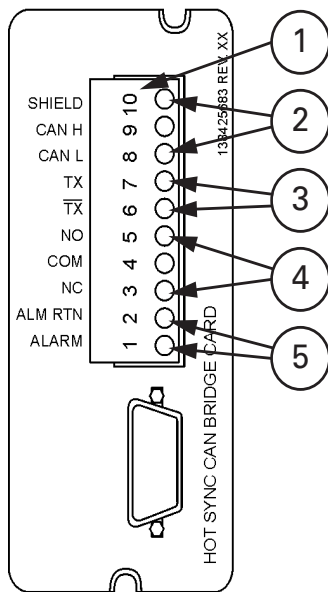
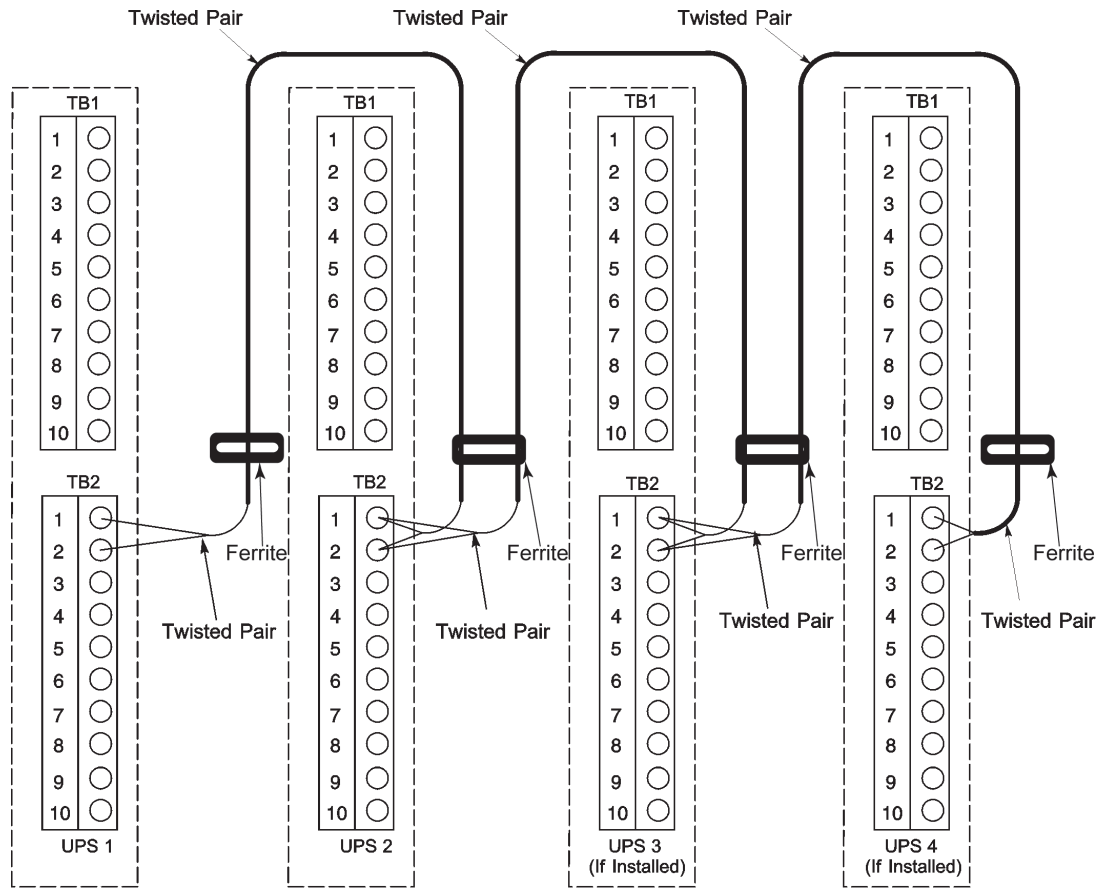
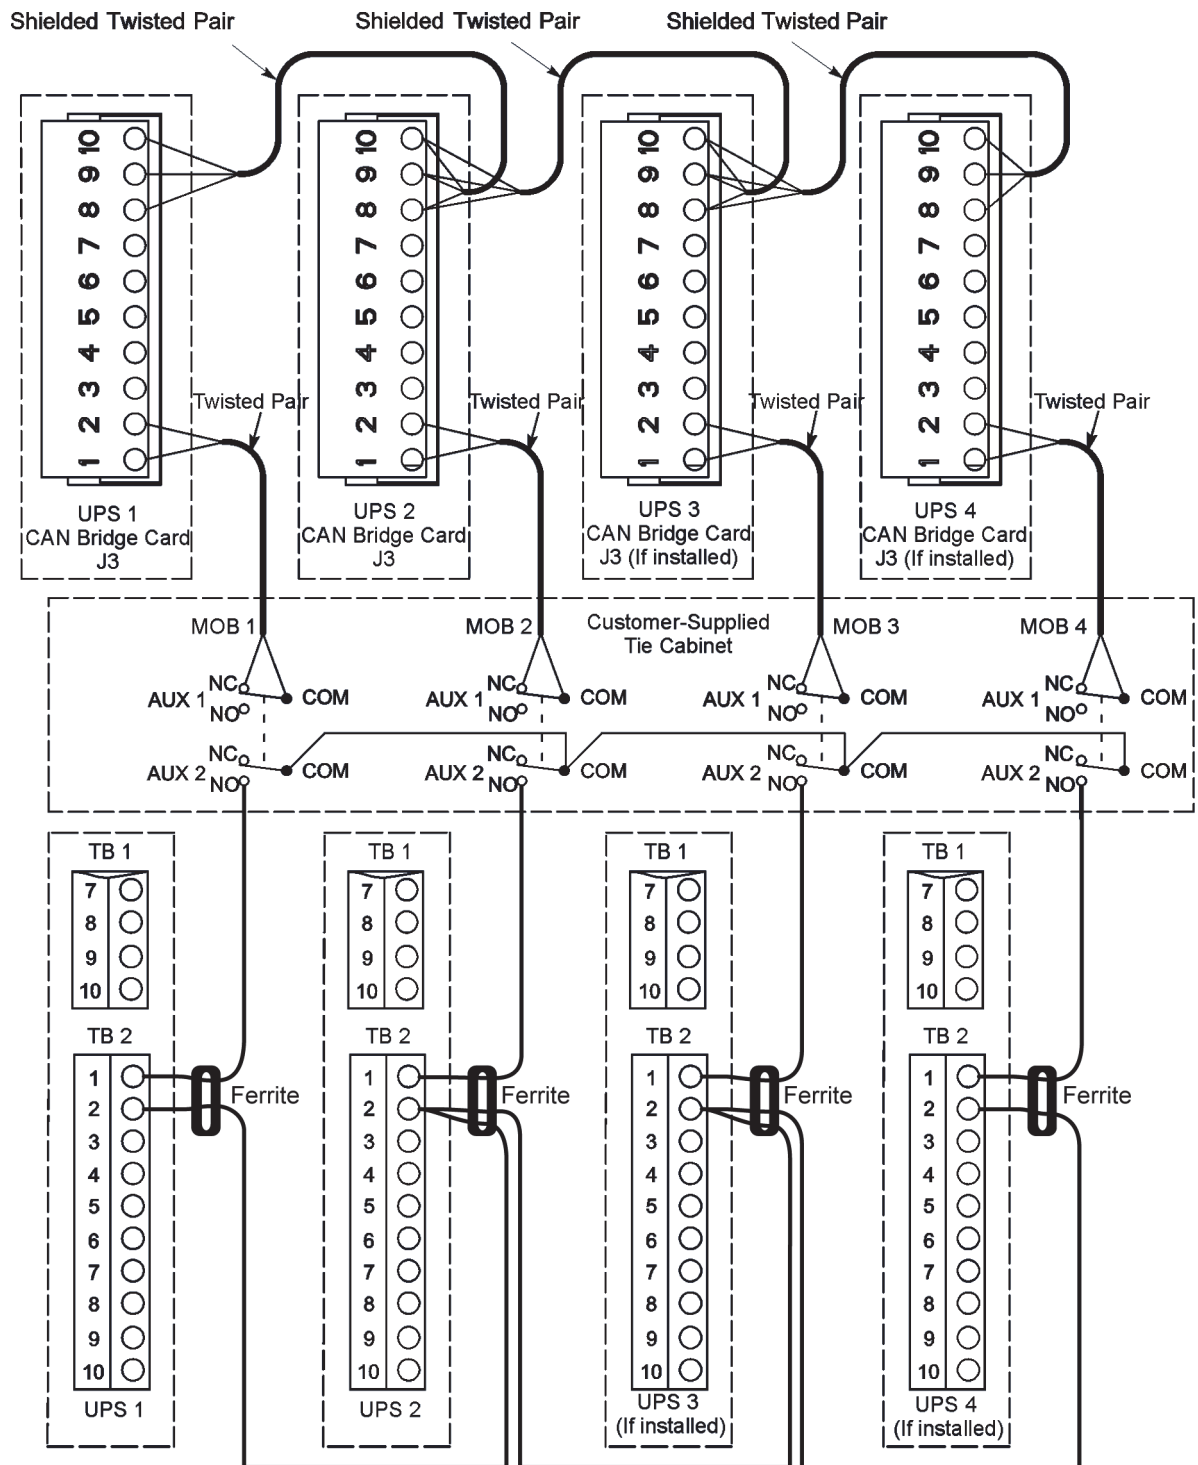

Figure 5-2. HotSync CAN Bridge Card connections
Figure 5-3. Distributed bypass system CAN and Pull-Chain simplified interface wiring
Figure 5-4. Distributed bypass system UPS CAN wiring without MOBs
To locate the appropriate terminals on the HotSync CAN Bridge Card, see Figure 5-2 and Table 5-1 on page 70.
7. Route and install CAN wiring between the UPS cabinets. See Figure 5-2 and Table 5-1 on page 59 for the HotSync CAN Bridge Card terminal location and Figure 5-3, Figure 5-4, and Table 5-2 on page 74 for wiring information.